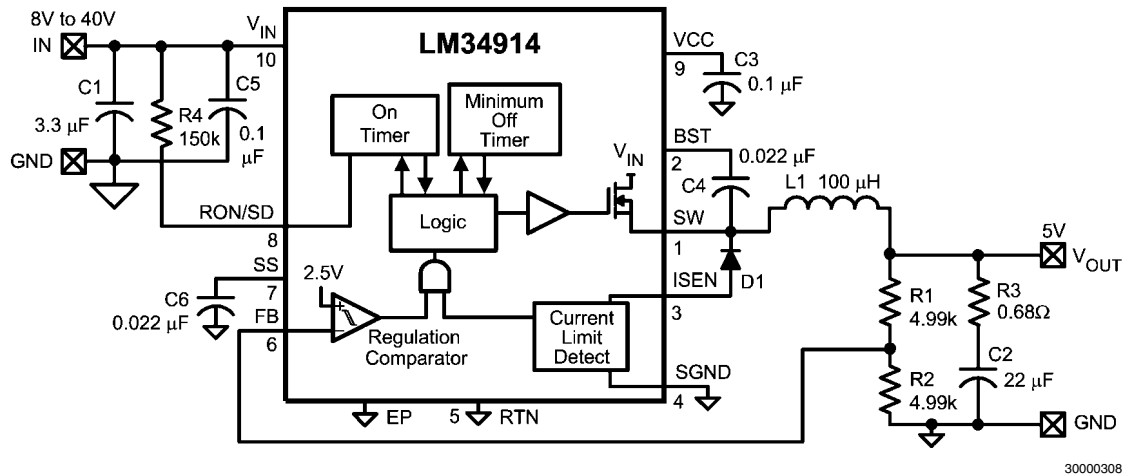

FIGURE 4. Lowest Cost Configuration
C) **Lowest Cost Configuration:** This configuration is the same as option B above, but without C12. Since  $\geq 25 \text{ mVp-p}$  are required at the FB pin, R3 is chosen to generate  $\geq 50 \text{ mV}$  at  $V_{OUT}$ , knowing that the minimum ripple current in this circuit is 85 mA-p-p at minimum  $V_{IN}$ . Using  $0.68\Omega$  for R3, the ripple at  $V_{OUT}$  ranges from  $\approx 60 \text{ mVp-p}$  to  $\approx 120 \text{ mVp-p}$  over the input voltage range. If the application can tolerate this ripple level, this is the most economical solution. The circuit is shown in Figure 4.